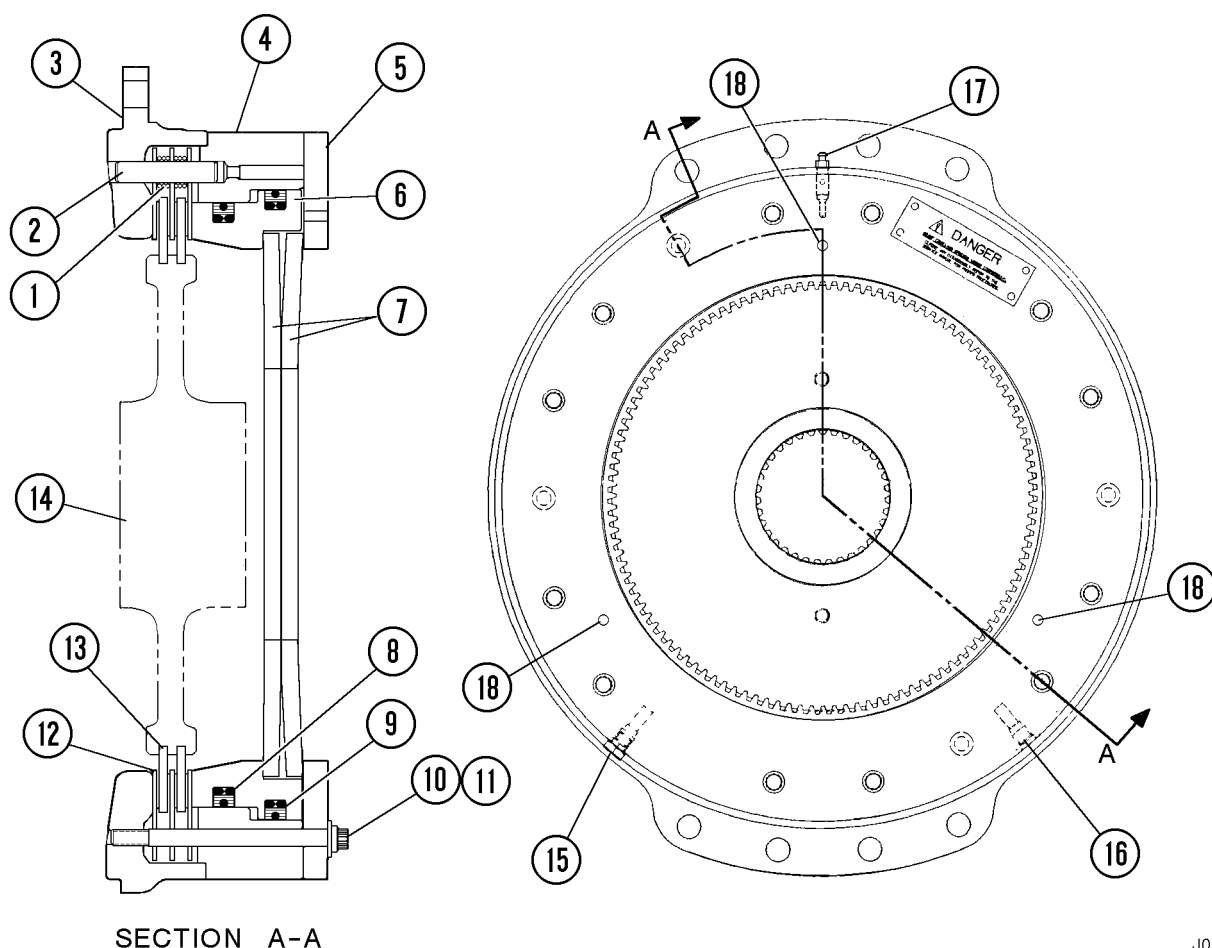

FIGURE 7-5. PARKING BRAKE ASSEMBLY
1. Match mark parking brake housing (3, Figure 7-5), piston housing (4), and end cap (5).
1. If dowel pins (2, Figure 7-5) have been removed, press new dowel pins into the holes in housing (3) until they are fully seated against the shoulder.
2. Install one separator disc (12) over the dowel pins. Insert one compression spring (1) over the dowel pins. Insert one friction disc (13).
3. Install second compression spring (1) over the dowel pins. Install one separator disc (12) over the dowel pins. Insert second friction disc (13). Install remaining separator disc (12) over the dowel pins.
5. Lubricate the piston seals and insert piston (6) into piston housing (4).
6. Install piston/housing assembly over the dowels in housing (3).
7. Place belleville springs (7) in the piston counterbore as shown in Figure 7-5.
8. Place end cap (5) on the assembly and insert capscrews (10) with hardened washers (11). Do not tighten the capscrews.
NOTE: If a new wheel motor is installed or adapter gear (14, Figure 7-5) is replaced, clean the rust preventive coating from the adapter gear teeth with an organic-based cleaning solvent as detailed previously. Do not install the parking brake until the adapter gear is completely dry.
5. Connect a clear plastic hose to bleeder screw (17, Figure 7-5). Place the other end of hose into a container.